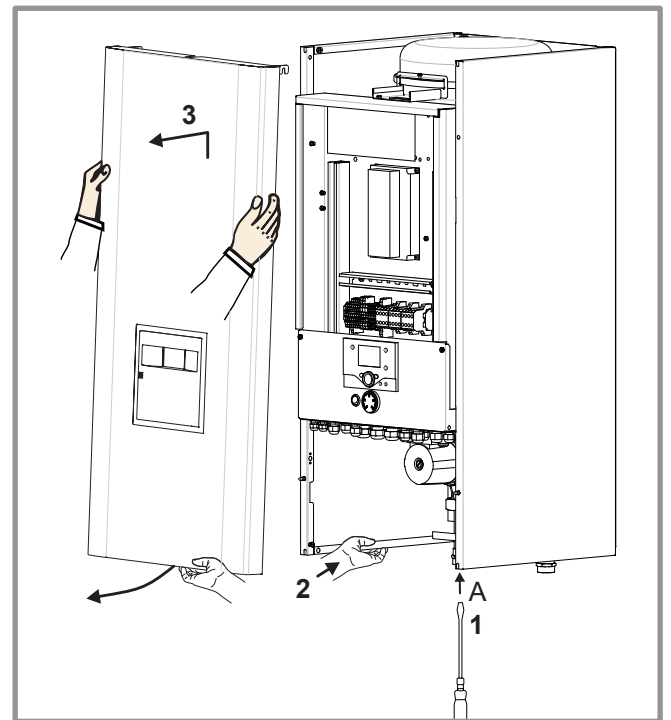

figure 14 - Removing the front panel
- Remove the front panel (2 screws **A**, figure 14).